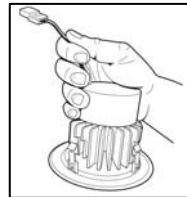

Figure 2
DO NOT LET THE MODULE HANG UNSUPPORTED BY THE ORANGE CONNECTORS. (Figure 2)
4. While supporting the LED module, plug connector from the module into the mating connector just installed into the recessed can. Push the wires and mated connectors up into the recessed can. **DO NOT LET THE MODULE HANG UNSUPPORTED BY THE ORANGE CONNECTORS.** (See Figure 2)